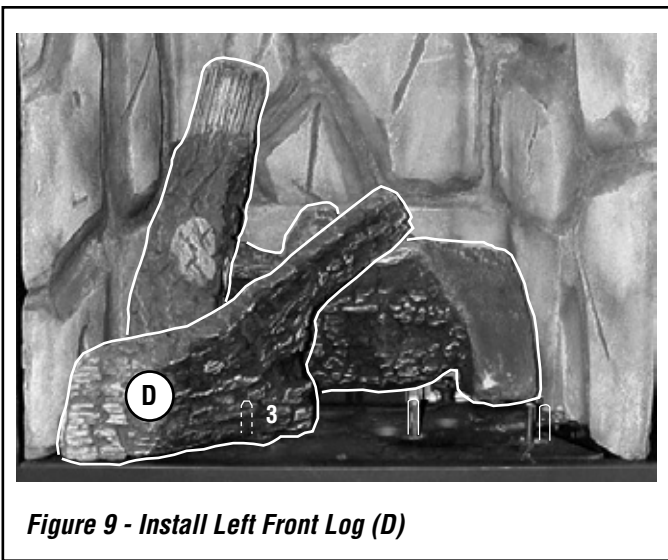

Figure 9 - Install Left Front Log (D)
3. **Place the left front log (D) as shown in Figure 9.** Position the hole on the bottom of log D over pin #3.